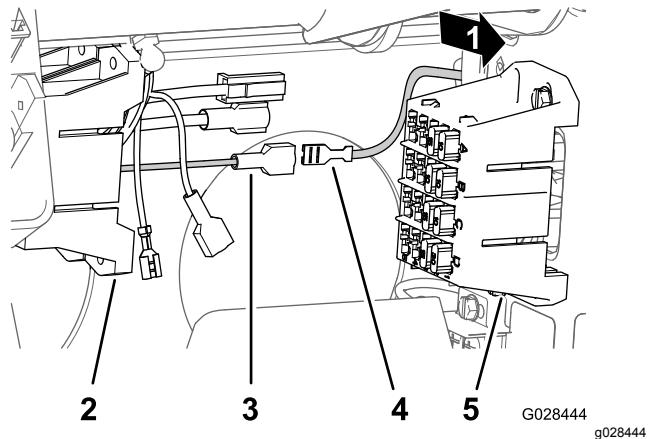

Figure 23
4. Locate the uninsulated receptacle terminal at the end of the open, yellow power wire of the fuse block for the machine and the insulated blade terminal at the end of the yellow, optional-power wire of the fuse block of the sprayer wiring (Figure 23).